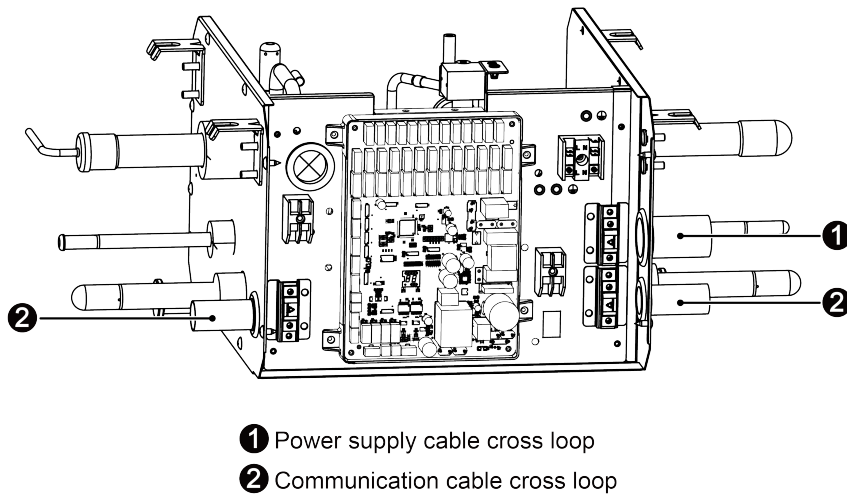
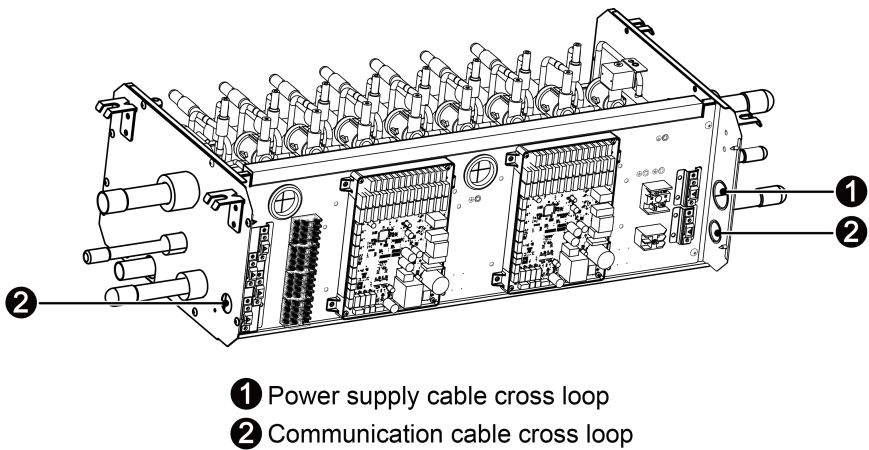

Fig.5.2.2
Fig.5.2.5
- 5) Take off the cable cross loop that is attached to the Mode Exchange Box, as shown in Fig.5.2.2~Fig.5.2.5. Replace with a local cable cross bushing.